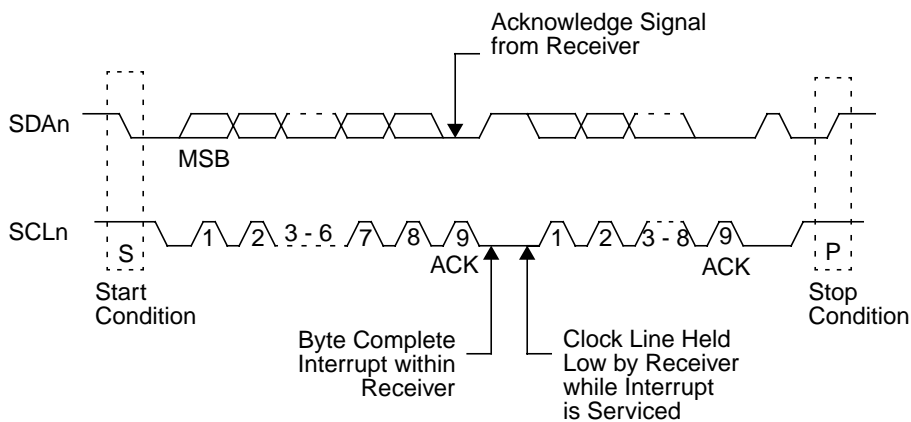

Figure 68. ACCESS.bus Data Transaction
- Acknowledge signal is sent by the receiving device (see Figure 68)